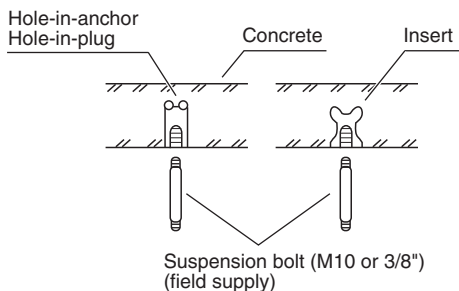

Fig. 1-92
- Insert suspension bolts (Fig. 1-92) or
- (2) Screw in the suspension bolts allowing them to protrude from the ceiling (Fig. 1-92). (Cut the ceiling material, if necessary.)